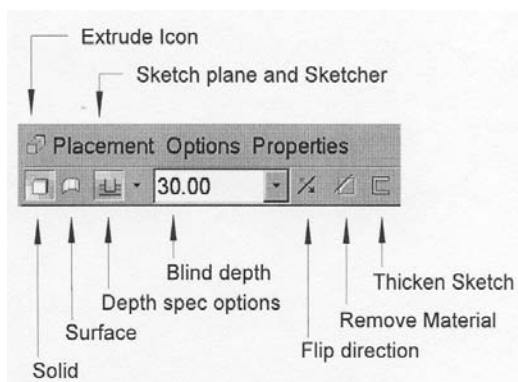
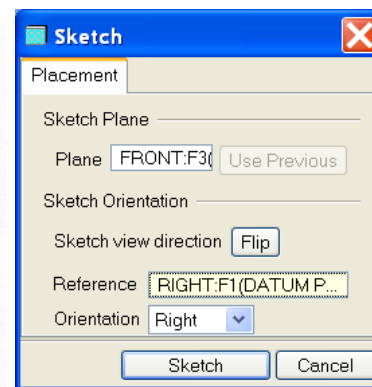
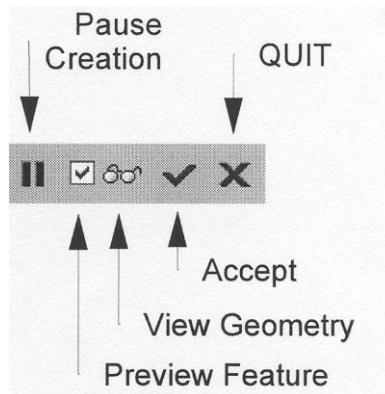

Figure 1.3 The Extrude Dashboard
Figure 1.4 Sketch dialog
Figure 1.7 Dashboard controls
- Click on the placement on the extrude dashboard (Figure 1.3) and select define. The sketch dialog window appears as shown in Figure 1.4.
- Extrude the rectangle to form the solid block. Enter depth value as 1.5 into the depth field of the extrude dashboard (Figure 1.3) and click the Accept tick to finish (Figure 1.7).